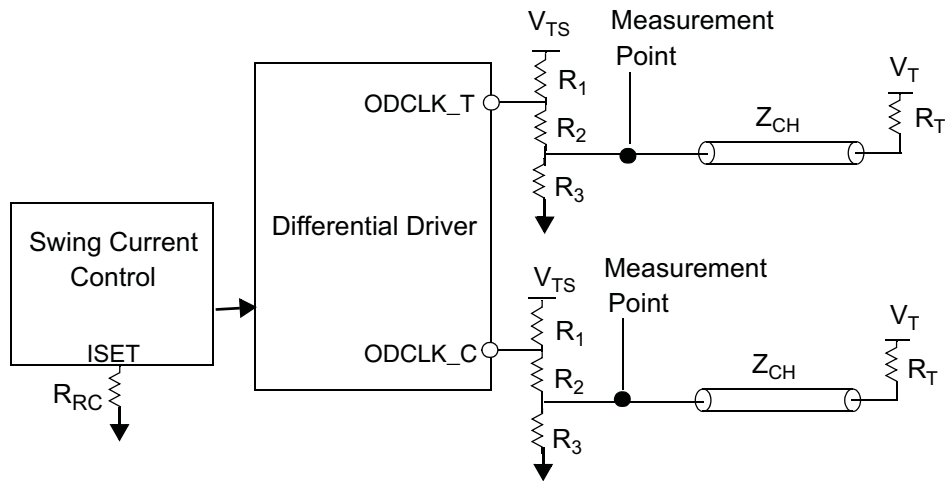

Figure 2. Example System Clock Driver Equivalent Circuit
- 1 When using singled-ended clock input, V_{TH} is supplied to CLK_INTC as shown in Figure 2. Duty cycle of singled-ended CLK_IN is measured at V_{TH}
Figure 2 shows the clock driver equivalent circuit. The differential driver produces a specified voltage swing on the channel by switching the currents going into ODCLK_T and ODCLK_C. The external resistor R_{RC} at the IREFY pin sets the maximum current. The minimum current is zero.
The driver output characteristics are defined together with the external resistors, R_1 , R_2 , and R_3 . The output clock signals are specified at the measurement points indicated in Figure 2. Table 5 shows example values for the resistors.
- 1 A different set of resistors is used in Figure 2 when testing for maximum output current of the clock driver (I_{OLABS}). These resistors are: $R_1 = 34\Omega$, $R_2 = 31.8\Omega$, $R_3 = 48.7\Omega$, $R_T=28\Omega$, $R_{RC} = 147\Omega$
For a singled-ended clock input, an external voltage divider and a supply voltage, as shown in Figure 2, provide a reference voltage V_{TH} at the CLK_INC pin to determine the proper switching point for CLK_INT. The range of V_{TH} is specified in the **DC Characteristics – Inputs** table.